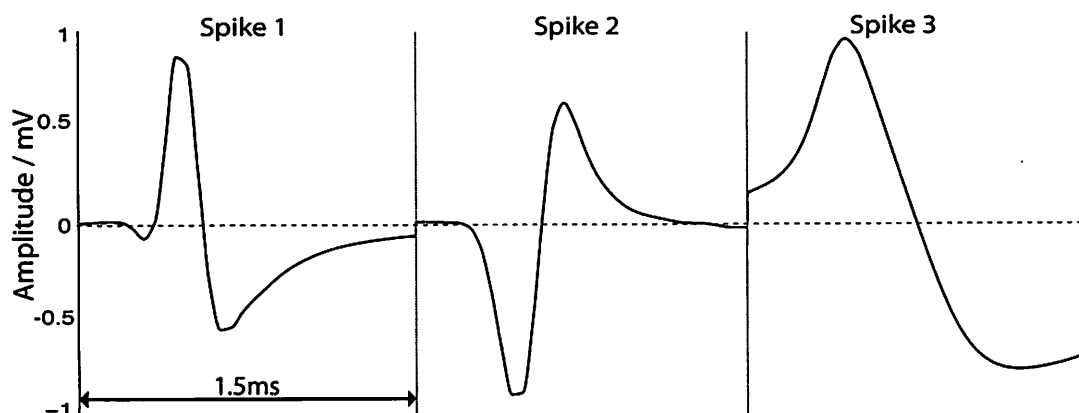

Figure 5.1 - Three neural spikes from one example channel of the implanted device.
The function of this BMI is to record extracellular action potentials from a microelectrode array. Assuming that each channel will record spikes from at most three different neurons, and that these spikes will have distinct features (example spikes shown in Figure 5.1), it is required to classify the spikes (i.e. being able to identify which spike shape is being recorded).
- Sketch a flow chart for detecting and extracting one of the features identified previously in your answer to part (e). Given that the positive spike peaks (shown in Figure 5.1) vary from  $0.75 \pm 0.25 \text{ mV}$ , and negative peaks vary from  $-0.75 \pm 0.25 \text{ mV}$ , estimate the range and resolution required to represent the feature selected. State any assumptions made. [5]